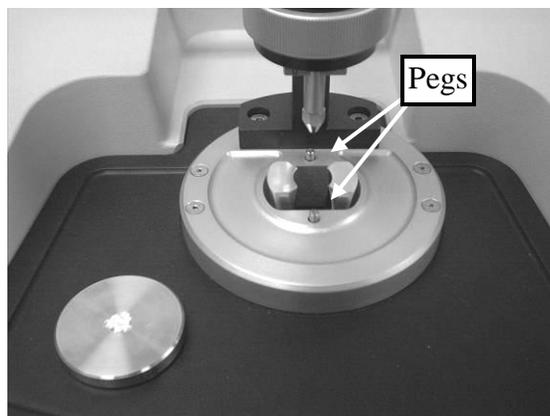

Figure 13: Replacing the crystal on the 2 pegs of the Smart Performer.
- 5.d. Replace the crystal in the Smart Performer – match the two pegs of the instrument (seen in Figure 13 below) to the two holes in the crystal’s base by ensuring the “Ge” on the side of the base is centered in the front.